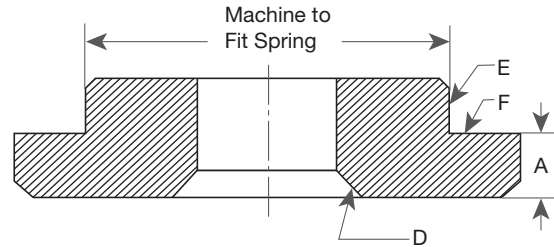

Figure 43: Lower Spring Washer F, G, and H Valves
- Secure the eductor tube (40) in the base (1) by expanding or swaging into the hole provided. The upper end of the eductor tube should project above the guide surface of the base approximately .125" (3.18 mm) and the lower end should point directly and squarely toward the valve outlet. When the valve is assembled, the hole at the outer edge of the guide flange must fit loosely around the projection of the eductor tube.
- For F, G and H orifice valves only, machine the new lower spring washer (17) (see Figure 43 and Table 21).
Note: When indicated at surfaces D and E (see Figure 43), run out at surface F is not to exceed .005" (.127 mm) full indicator reading.
Note: When indicated at surfaces D and E (see Figure 43), run out at surface F is not to exceed .005" (.13 mm) full indicator reading.
Drift Pins - Two drift pins are required for the removal of the disc (6) from the disc holder (8) (see Figure 43 and Table 25a).